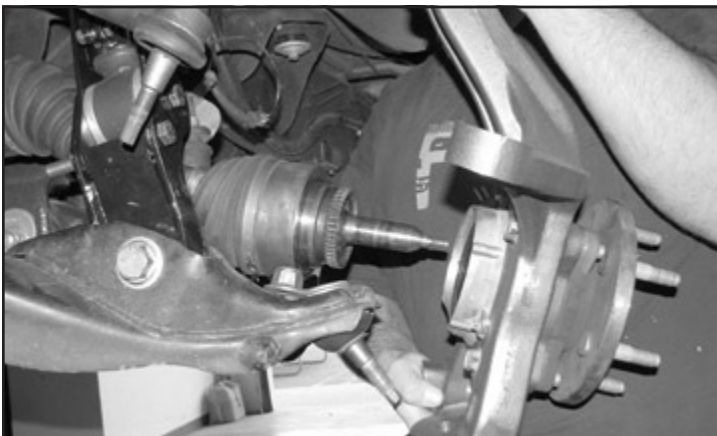

FIGURE 48 - STEP 44
44. Install the Fabtech spindle onto the upper and lower control arms. Torque the upper ball joint to 85 ft-lbs and the lower ball joint to 110 ft-lbs. **SEE FIGURE 48**